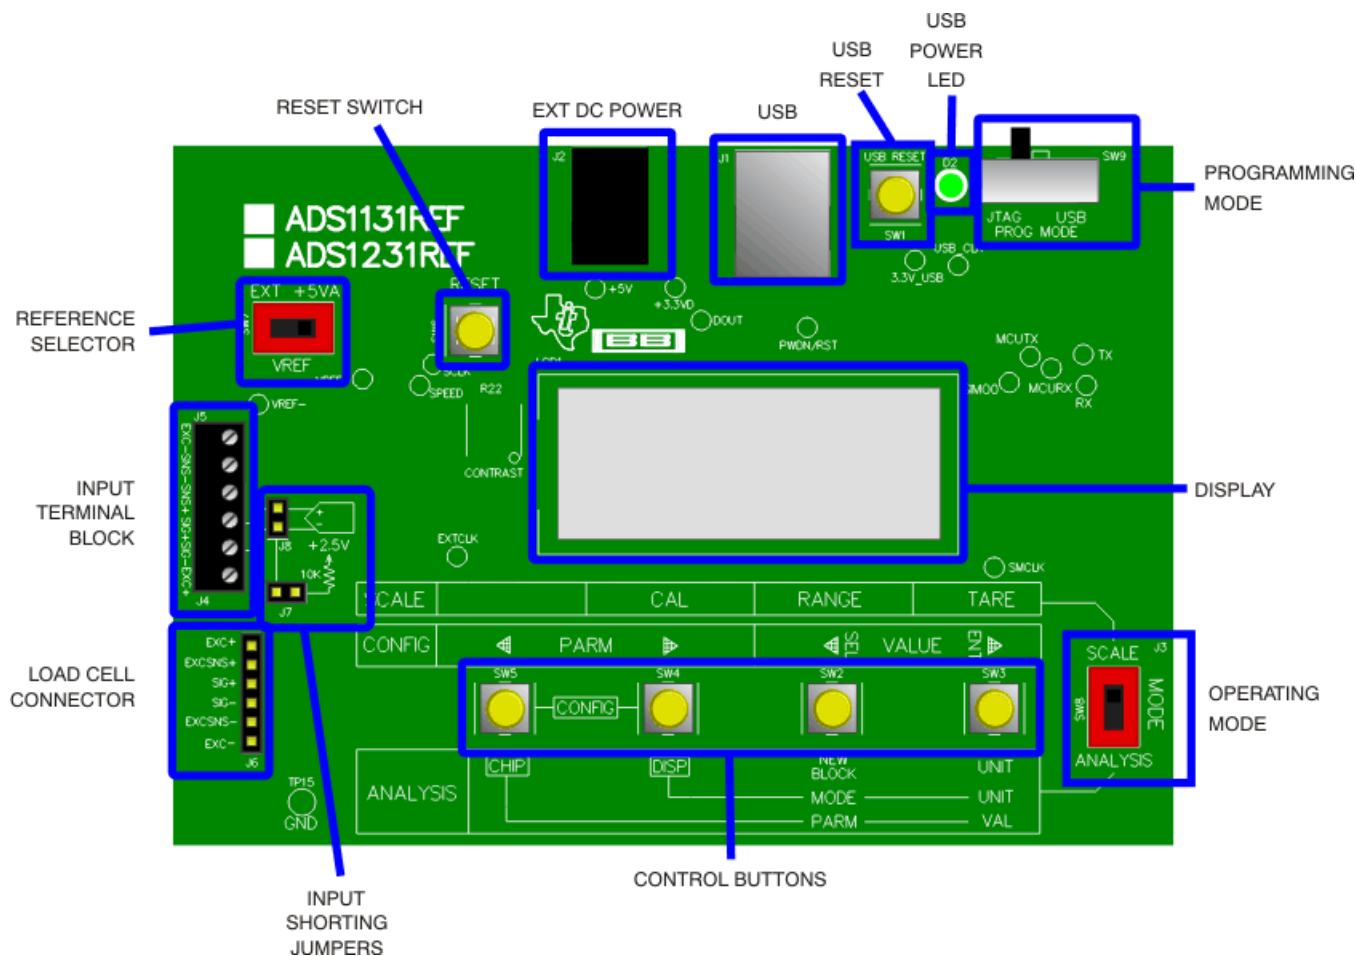

Figure 1. ADS1x31REF Controls and Connectors
A diagram of the ADS1x31REF is shown in Figure 1.
The main controls for the ADS1x31REF are the four buttons and the mode selection slide-switch (see Figure 1).
2. Short jumpers J8 and J7. (These jumpers are located very near the terminal block, and are marked *Input Shorting Jumpers* in Figure 1.)
2. If the input shorting jumpers J8 and J7 are connected, disconnect them (see Figure 1).